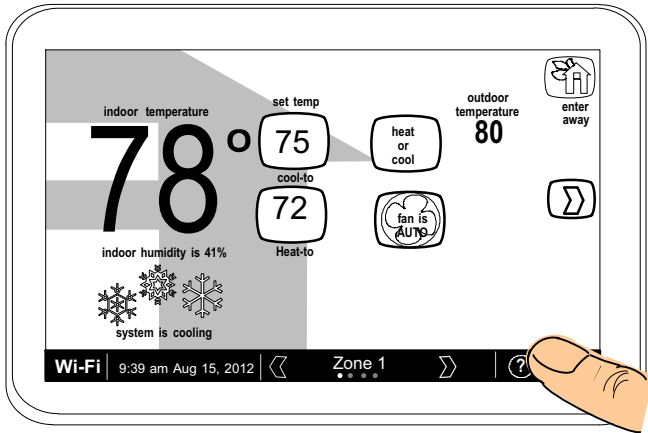

Figure 34. Enter Installation Setup Mode
To access the installer screens after the unit has been placed in operation and the user home screen is displayed, press the “Lennox” logo and hold for 5 seconds (see figure 34). The system will access the installer screens.
1. From the **Home Screen**, press and hold **Lennox** (see figure 34) until the warning screen appears. Press **yes** to continue